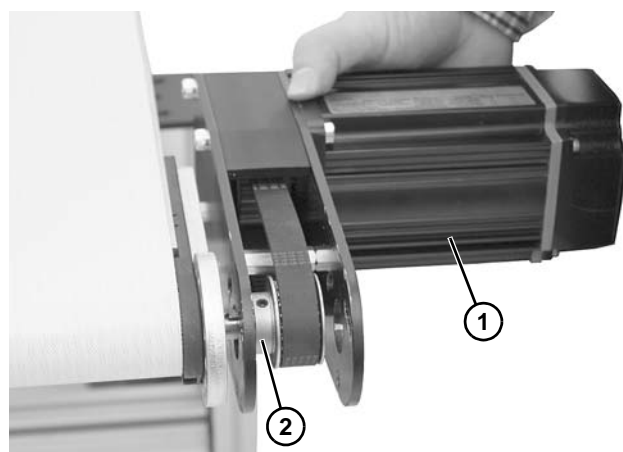

Figure 6
8. Install drive package (Figure 6, item 1) and driven pulley (Figure 6, item 2) on output shaft.